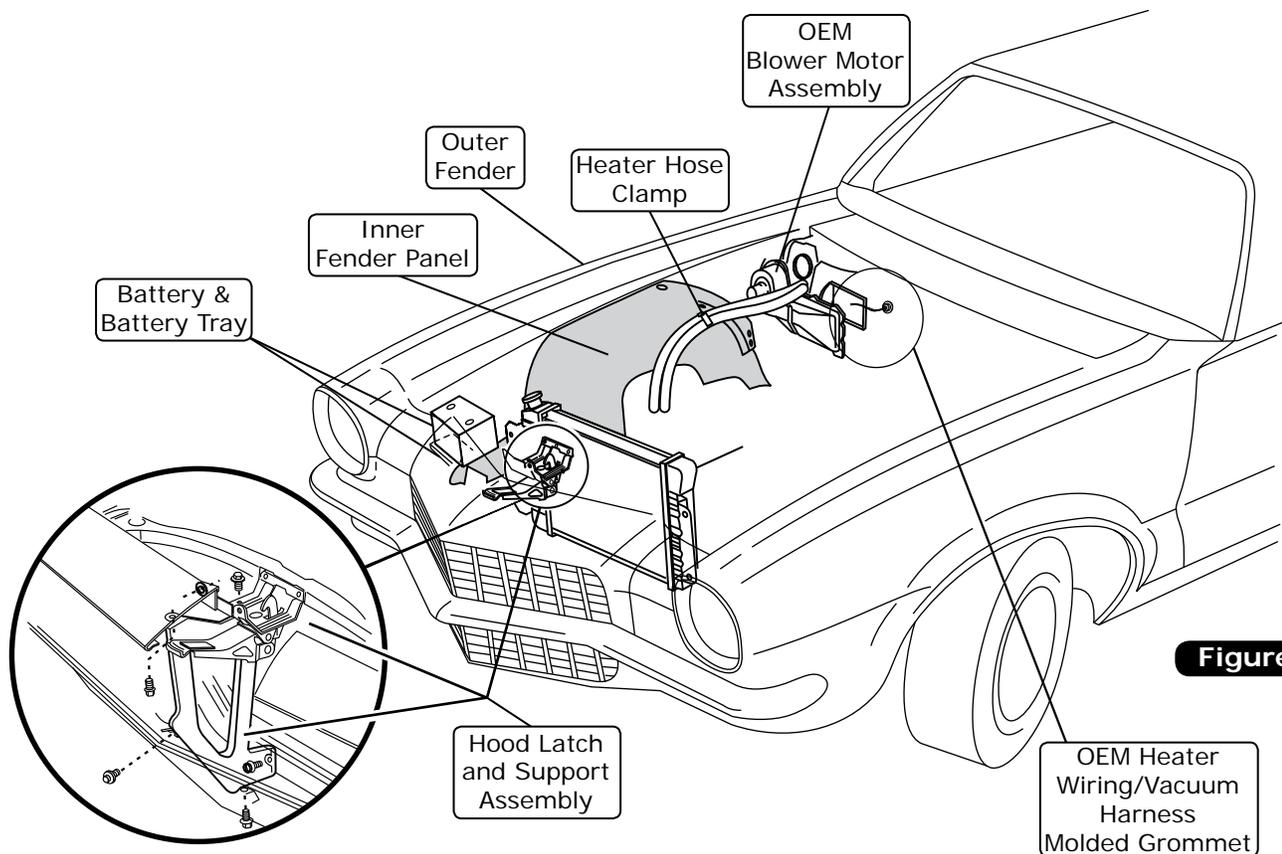

Figure 1
1. Remove the battery and battery tray (retain) (See Figure 1, below).
4. Remove the heater blower motor assembly (discard). **NOTE: To remove the heater blower motor assembly (under hood) and the air distribution system (under dash), remove the inner fender (See Figure 1, below).**
5. Remove the OEM heater hoses (discard) (See Figure 1, below).
6. Remove the OEM heater wiring/vacuum harness molded grommet (See Figure 1, below).